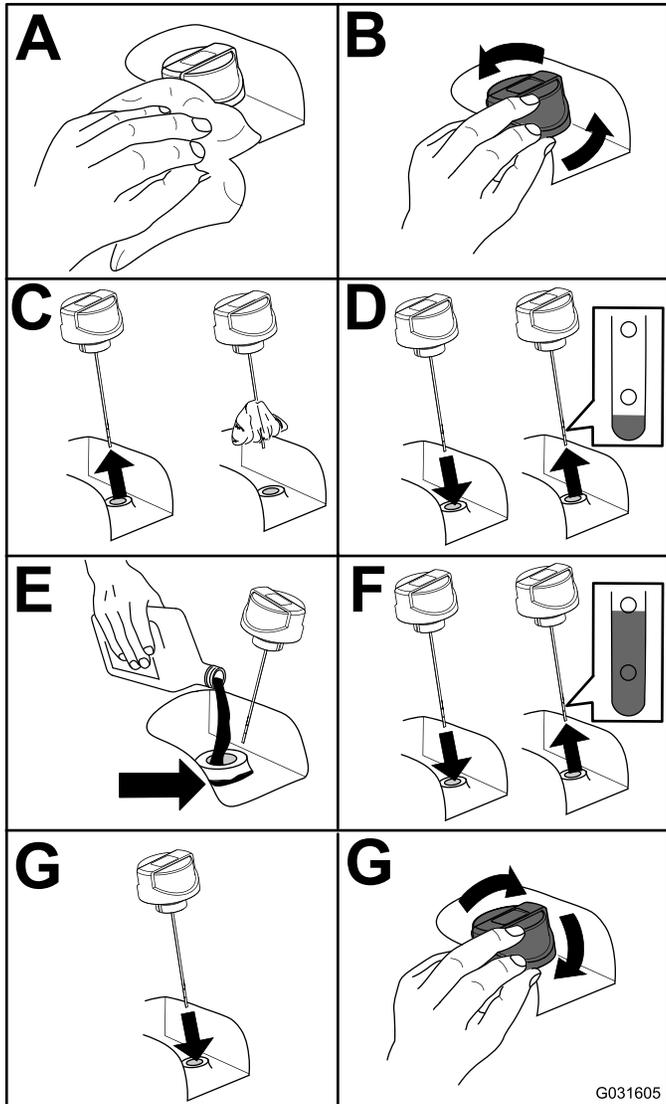

Figure 92
5. Fill the reservoir with hydraulic fluid (Figure 92).